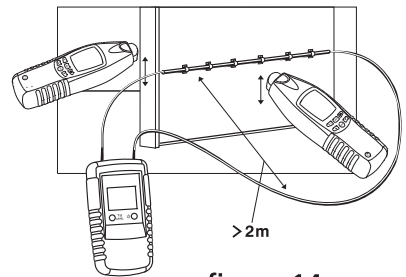

figure 14
- Connect the transmitter in compliance with the figure 14.